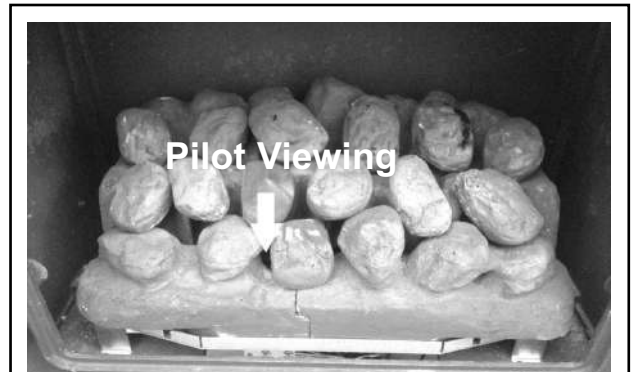

Figure 9.
3. Turn the control knob clockwise to the 'Off' position. Repeat this operation until a flame appears at the pilot. The pilot can be seen by looking through the gap in the fuel effect (See figure 9 & 10). There may be a delay before the pilot lights due to air being purged from the system. When a flame appears at the pilot keep the control knob depressed and hold the pilot ignition position for five seconds. When the control knob is released the pilot flame should remain lit.